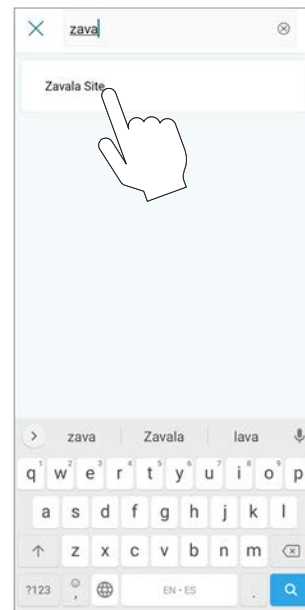

Figure 118. Choose Organization
4. "Choose organization" screen will be displayed and it will show all the available organizations. Navigate the sub-organization list or use the search tool to locate desired organization. See Figure 118.